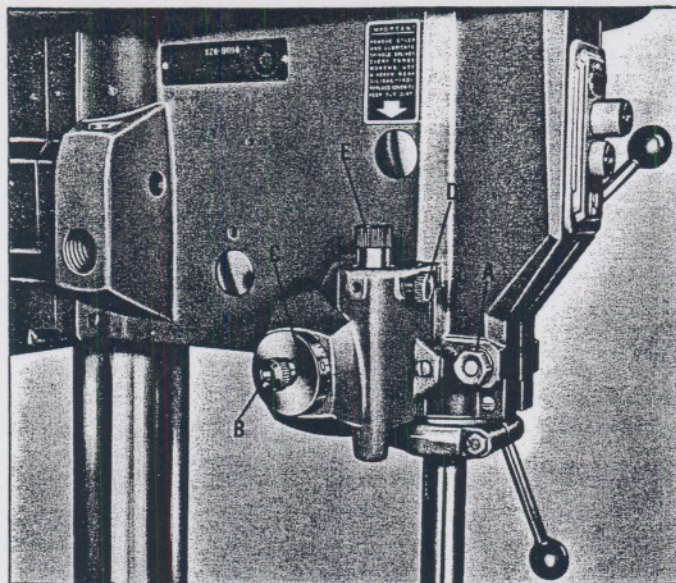

Fig. 7.
1. Lower the quill until the drill just touches the work and lock the quill by tightening the quill locking nut (A) Fig. 7.
2. Loosen knob (B), set the depth scale (C) at zero, and tighten knob (B) Fig. 7.
1. Loosen lock screw (D) Fig. 7, and turn knurled thimble (E) clockwise while lowering the quill to the depth desired. Lock the quill with quill locking nut (A) Fig. 7.
2. Turn knurled thimble (E) Fig. 7, counterclockwise until no further turn is possible. Tighten lock screw (D) and loosen quill locking nut (A). NOTE: If at any time the quill does not return completely, even with proper spring tension, the thimble (E) has been backed off too far and should be re-adjusted counterclockwise a fraction of a turn at a time until full retraction of quill is obtained.